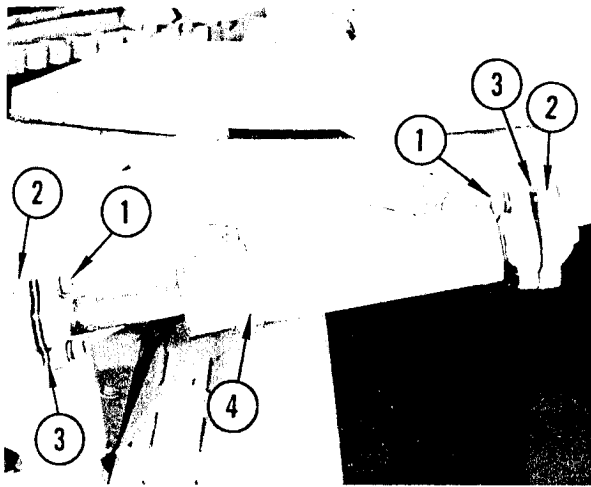

FIGURE 16. TILT CYLINDER REMOVAL
Refer to Figure 16. Remove nuts and lockwashers (1) from link cap retaining capscrews. Remove capscrews. Remove link